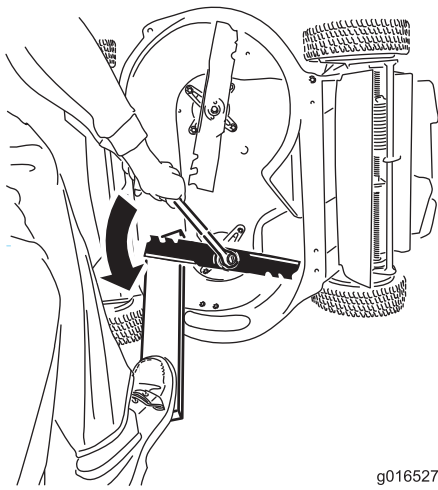

Figure 43
- Use a block of wood to hold each blade steady and turn the blade bolt counterclockwise as shown in Figure 43.